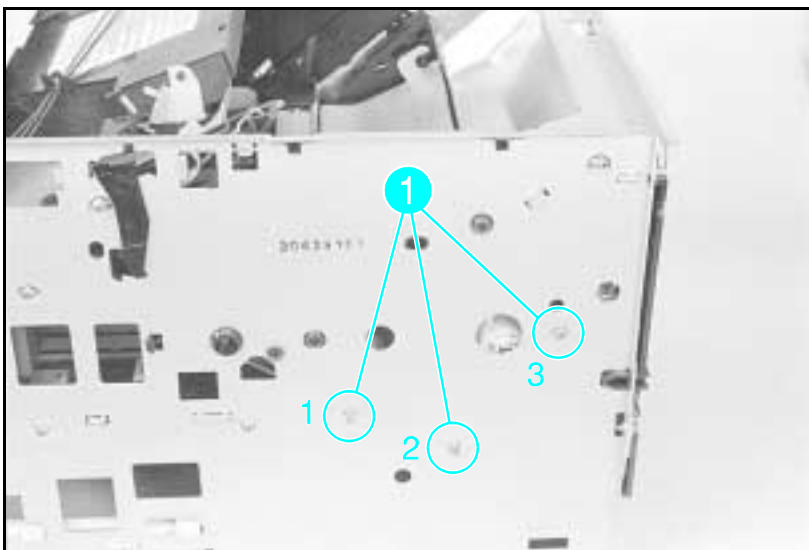

Figure 6-18 Paper Feed Assembly Screws (numbered)
- 5** Remove the (3) screws from the left side of the printer (see Figure 6-18, callout 1).